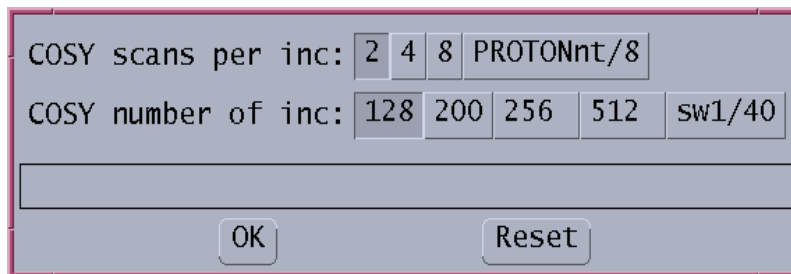

Figure 19. COSY Customization Window
8. In the new window, shown in Figure 19, use the left mouse button to choose the number of transients per increment and the number of increments in the COSY experiment. The values that you choose are shown as depressed buttons.